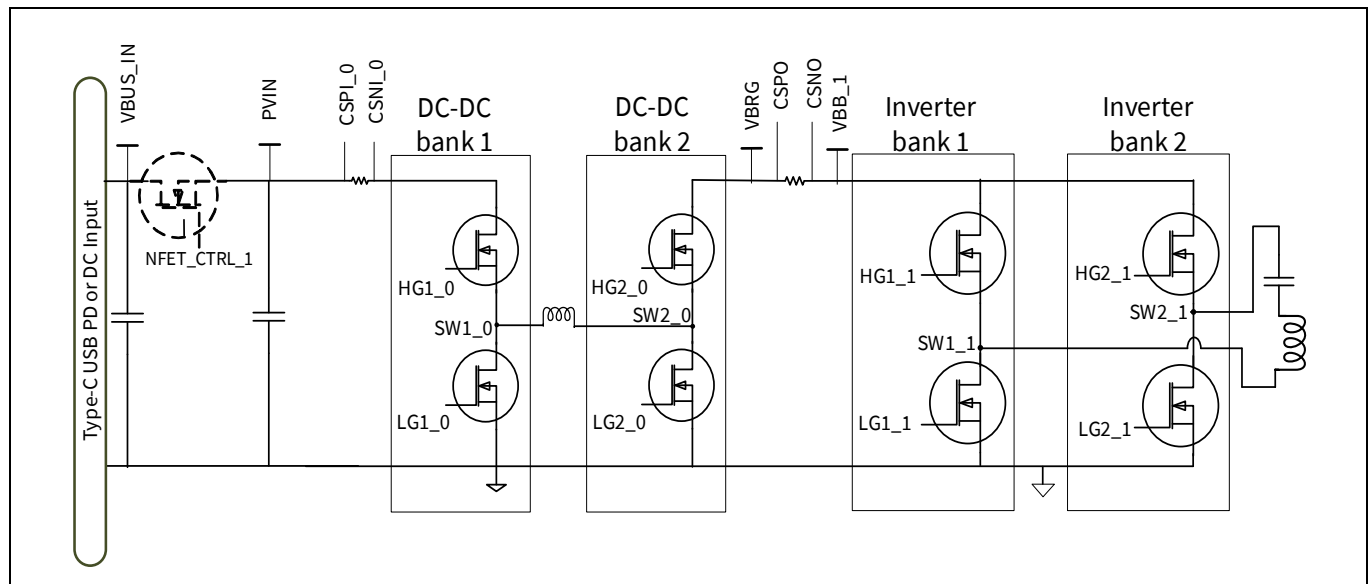

Figure 3 WLC1115 key pin mapping with buck-boost and inverter power supplies^[4]
- Refer **Figure 3** for an overview of key WLC1115 pin mapping to power input, current sense and gate drivers of buck and inverter power supplies.